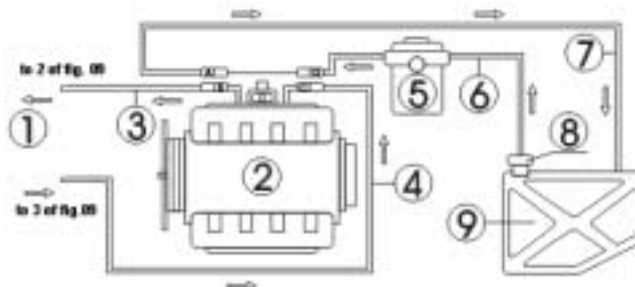

Fig.09
The hose line connection of the engine with return hose is shown as in Fig.09.
- 1) Disconnect the connections of fuel supply hoses (C, D) and fuel return hoses(A, B) of the engine fuel system(wrap the connector with towel when disconnecting the connector). Choose proper connectors and connect them to the B end and C end separately, and then connect the other ends to corresponding return hose and outlet hose of the unit. See Fig.09.